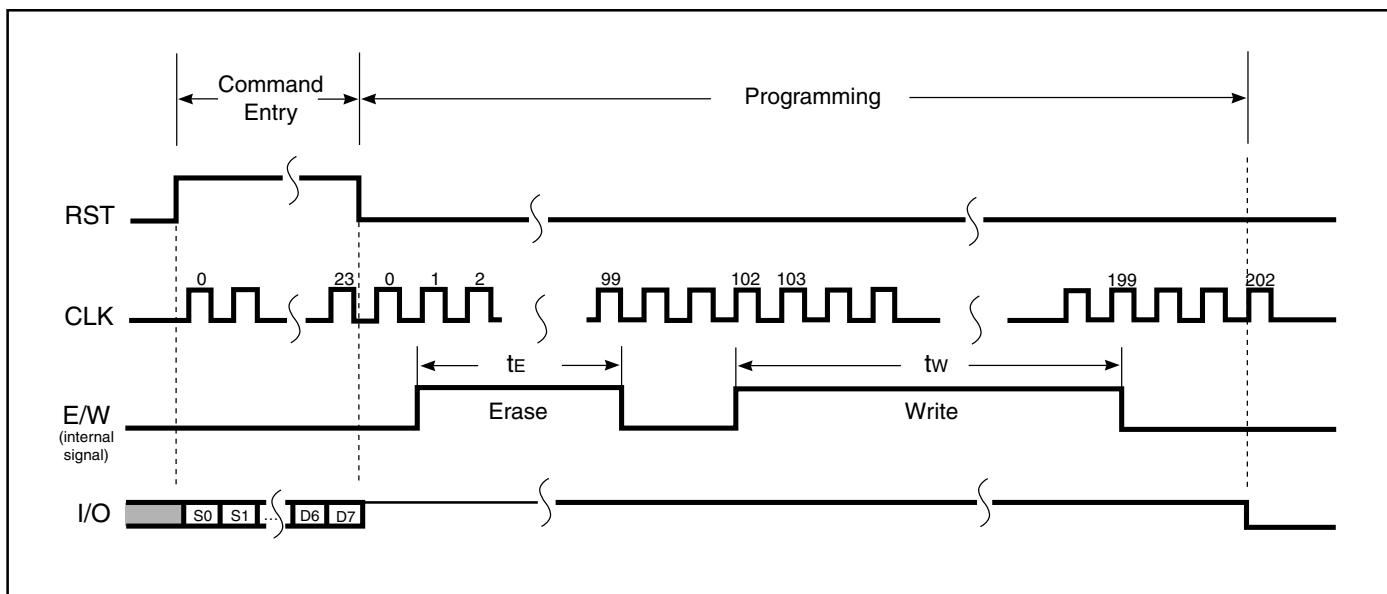

Figure 8. Programming Erase and Write
1. Erase and subsequent write if 203 clock pulses at  $f < 20$  KHz are applied. (See Figure 8.)
The write/erase data byte with protect bit command operates similarly to the write/erase data bytewith protect bit command except that it also writes 0 to the corresponding protect bit. After the protect bit is set to 0 (write protection enabled), it cannot be changed again. (See Figures 8 and 9.)